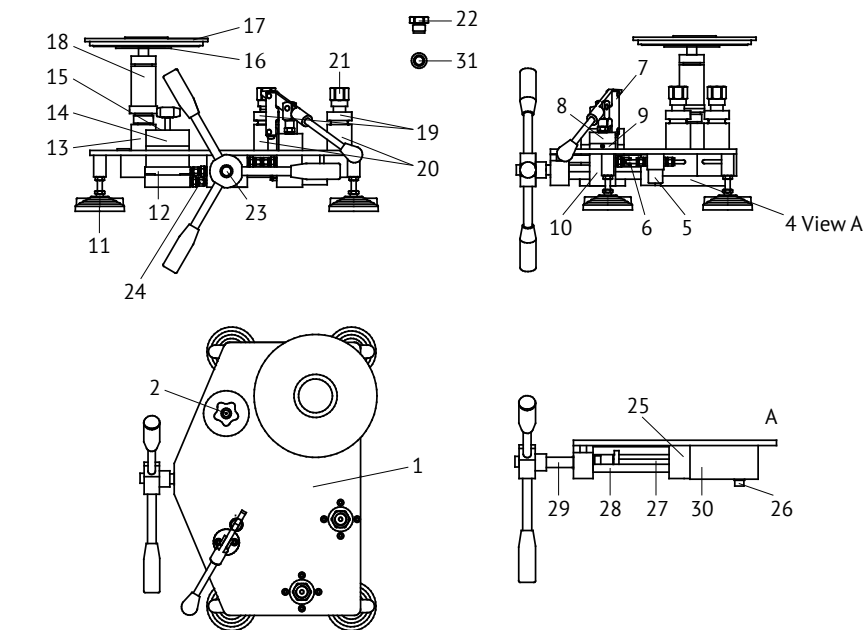
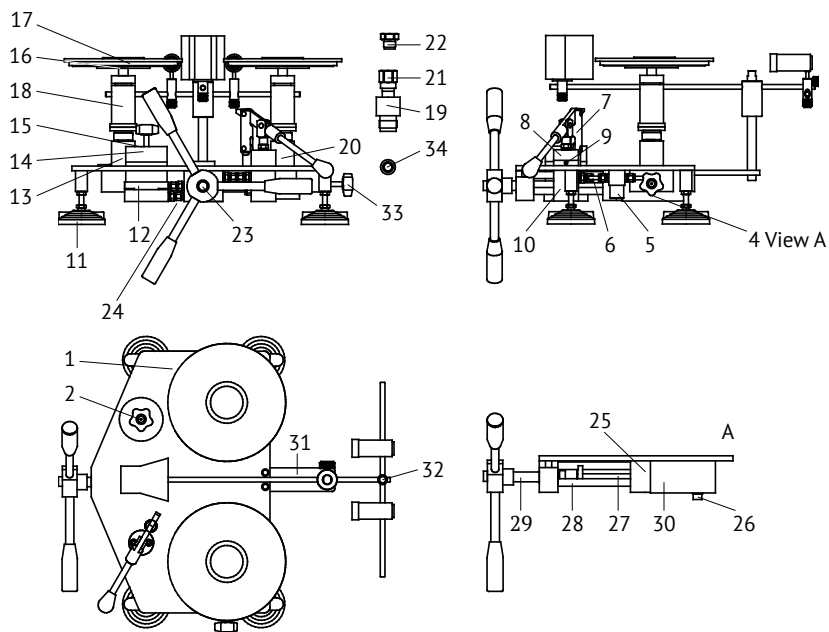

Fig. 1. Deadweight tester MP-6 in common version:
Fig. 3. Deadweight tester MP-6 in special version:
4.2 Deadweight tester is composed of three parts, i.e. pressure development device, Piston-cylinder assembly and set of weights. Deadweight tester base is composed of a steel plate 1 (Figs. 1-4) provided with four adjustable supports 11. Main rod assembly consists of guide bush 25, main rod 27, fluid drain screw 26, studs 28, screw 29 and main unit 30. Hand pump 7 is made as a separate unit and consists of case 10, guide bush 8, seal washer 9 and the system of levers. Hand pump is connected with deadweight tester hydraulic system via tubes. Barrel 14 for working fluid is arranged from the left side, as well as pressure release valve 2. PSA is fitted at the left post (PSA post) while tested measuring instruments are set at either adjusted posts 20 (Figs. 3, 4) directly or via adapter 19 (at special-version devices), or at post(s) 20 (Figs. 1, 2) for tested measuring instruments with preliminary fitted adapter 19 at common-version instruments by means of coupling nut 22. Reference PSA vertical position is adjusted by supports 11, while adjustable post vertical position (on special version measuring instruments) is adjusted by screws that attach the adjustable post to the plate. Pressure smooth adjustment is effected by flywheel 23. Oil is fed to assemblies via tubes 6 jointed by fittings 24. Fine filter 5 is connected in hydraulic circuit to up reliability and to prevent device damage.
6.6 Pull the main rod, turning the flywheel counterclockwise against the stop to tighten the shutoff valve 33 (Figs. 3, 4) (special version).
6.11 Use smooth pumping to force oil in the system so that oil does not splash out from the PSA body and adapter holes (of tested PSA body) and continuously control the oil level in the barrel (add, if required). When oil level in adapter holes lifts to top edge, coupling nuts are to be fitted in adapters, as well as rubber-metal seals and plugs (at deadweight tester in common version and special version at the use of adapter at post 20 (Figs. 3, 4)). Force oil unless it appears in the PSA cylinder channel.
6.19 Place base 31 (Figs. 3, 4) of the piston position control device on deadweight tester base.